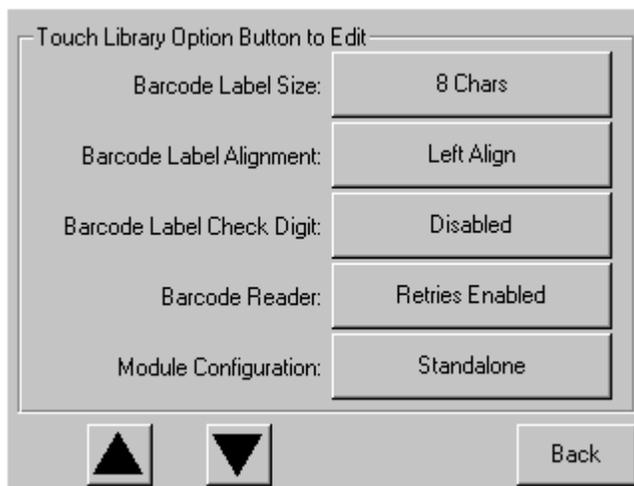

Figure 27: Module Configuration select screen
4. Press the down arrow (▼) until the **Module Configuration** menu option appears on the bottom of the display (see Figure 27).
4. Touch the down arrow (▼) until the **Module Configuration** menu option appears on the bottom of the display (see Figure 27 on page 51).